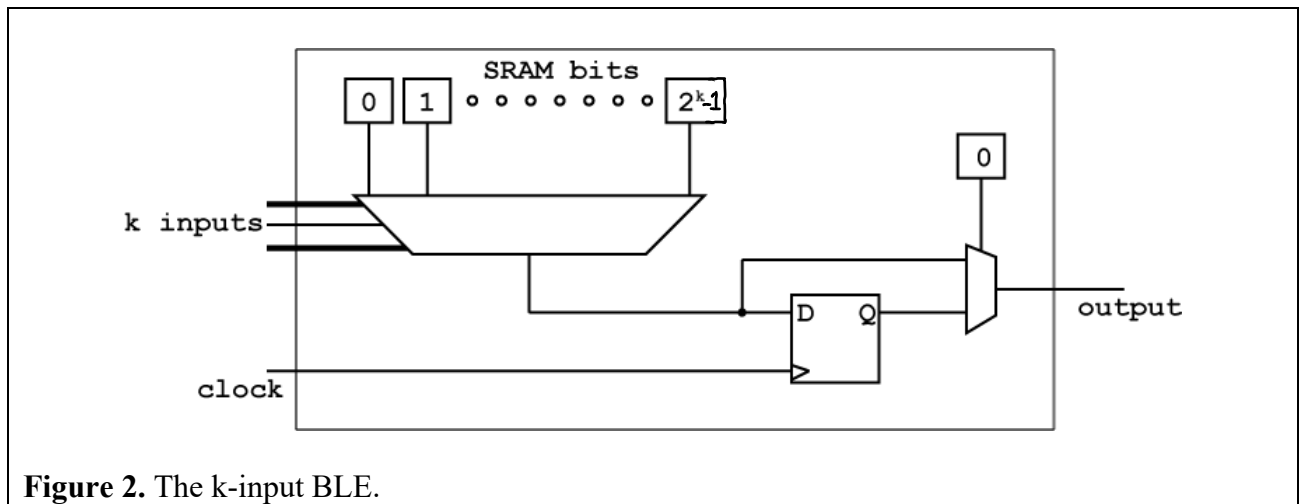

Figure 2. The k-input BLE.
A single CLB is composed of multiple “Basic Logic Elements” (BLEs). A single BLE comprises a k-input Look-Up Table (LUT) and a Flip-Flop (FF). The k-input LUT in essence is a 2^k to one multiplexer with “k” select lines. Any arbitrary logical function of k variables can then be implemented as the output of the multiplexer by statically setting the 2^k inputs to the functionally correct values and then using the “k” select lines as the variable inputs. The output of each BLE is either registered or not registered by a bypassable FF; see Figure 2.